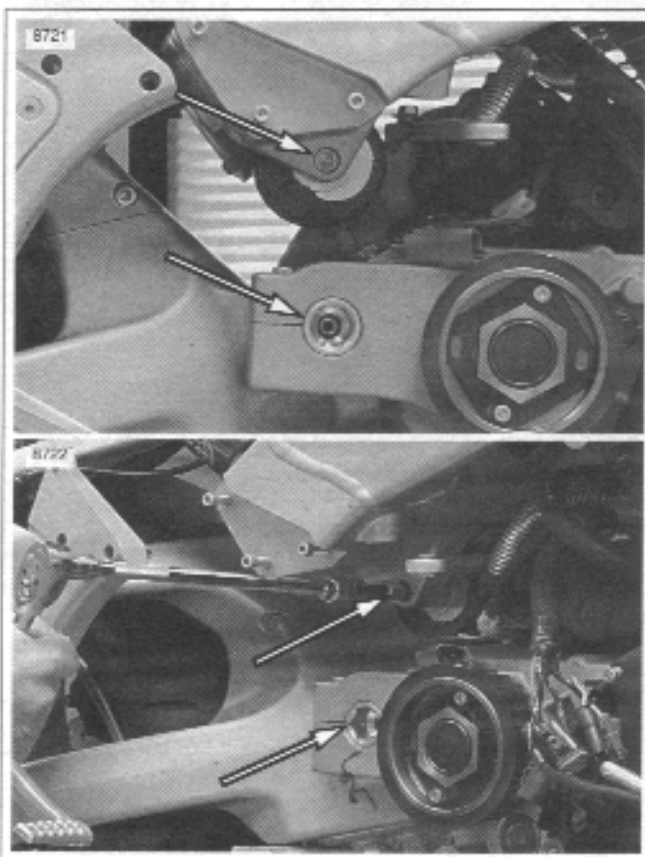

Figure 3-26. Rear Isolator Bolt and Swingarm Pivot Shaft
34. See Figure 3-26. After rotating engine back up into frame, continue to remove: